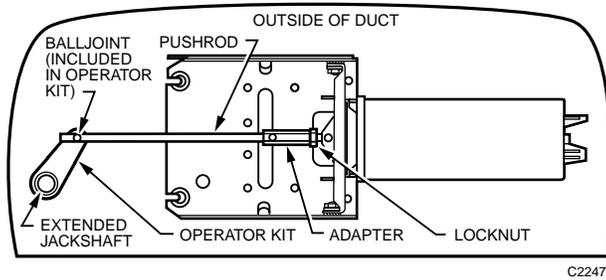

Fig. 28. External Mounting.
2. Extend jackshaft to the outside of the duct and mount actuator externally (Fig. 28) Use balljoint included in operator kit.